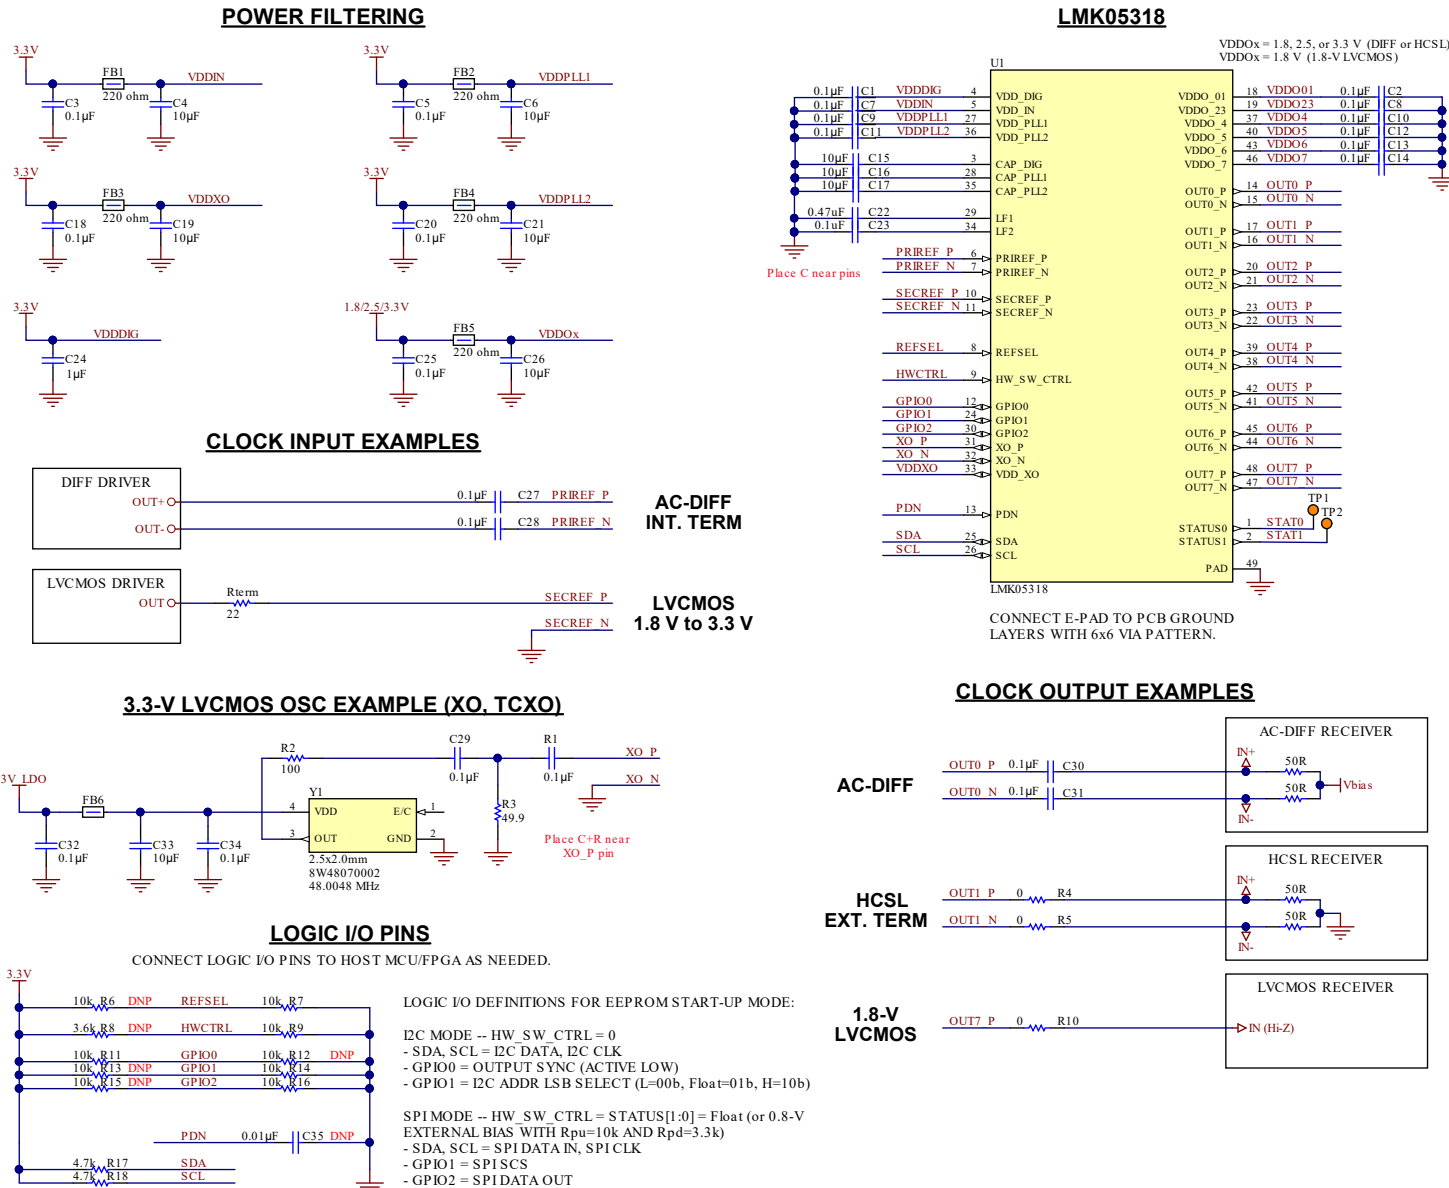

图 10-4. LMK5B12204 Reference Schematic Example
- For a 3.3-V LVCMOS driver, follow the OSC clock interface example in 图 10-4. Power the OSC from a low-noise LDO regulator or optimize its power filtering to avoid supply noise-induced jitter on the XO clock.
- Reference inputs: Follow the LVCMOS or differential clock input interface examples in 图 10-4 or in 节 9.3.3.
- Clock output Interfacing: Follow the single-ended or differential clock output interface examples in 图 10-4 or in 节 9.3.14.
- Power all the VDD pins with proper supply decoupling and bypassing connect as shown in 图 10-4.